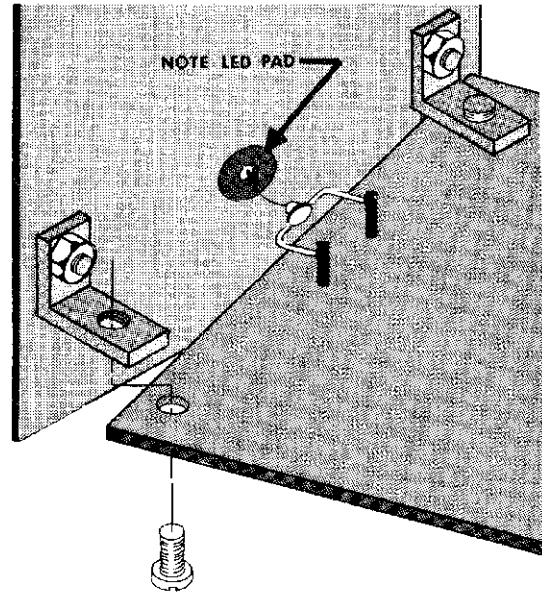

Figure 9
- () An insulating "dot" has been supplied to prevent the leads of the Light Emitting Diode from shorting against the front panel. Remove this "dot" from its cardboard backing and apply to the rear of the front panel so that the hole in the dot is centered over the LED hole in the front panel. (see fig. 9)
- () When mounting the circuit board to the front panel note that the dome front of the LED is designed to fit into the small hole in the front panel. To most easily accomplish this, "cock" the circuit board in relation to the front panel and pass one 4-40 screw through the circuit board into the threaded hole in the "L" bracket as shown in figure 9. DO NOT COMPLETELY TIGHTEN THIS SCREW.